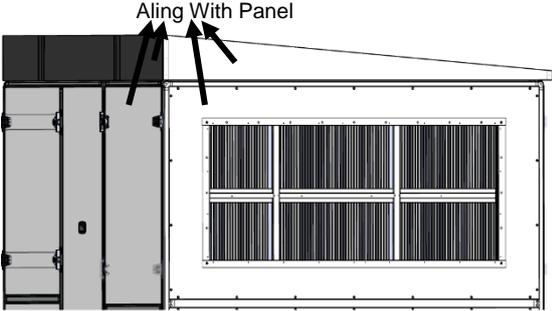

Fig. 130
5. Place the frame assembly on the unit. Make sure that these parts are at the same level with the unit's vertical panels (Fig. 130)